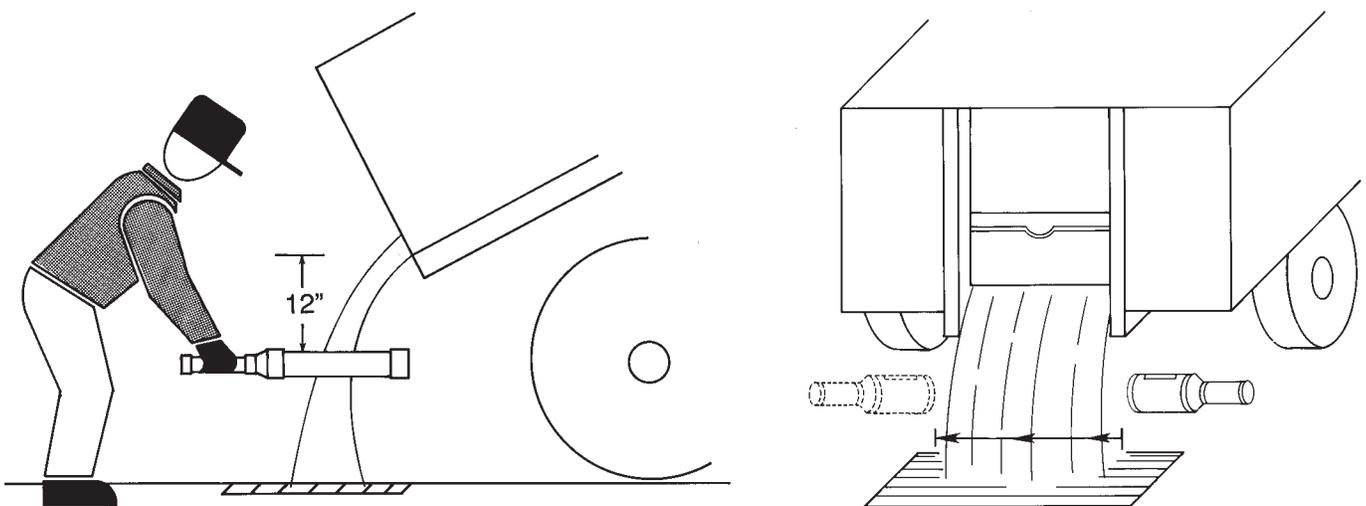

Figure 2. Sampling grain stream.
5. The entire stream must be cut (sampled) with a side to side sweep of the sampler, cutting the full thickness of the stream – front to back (Figure 2).